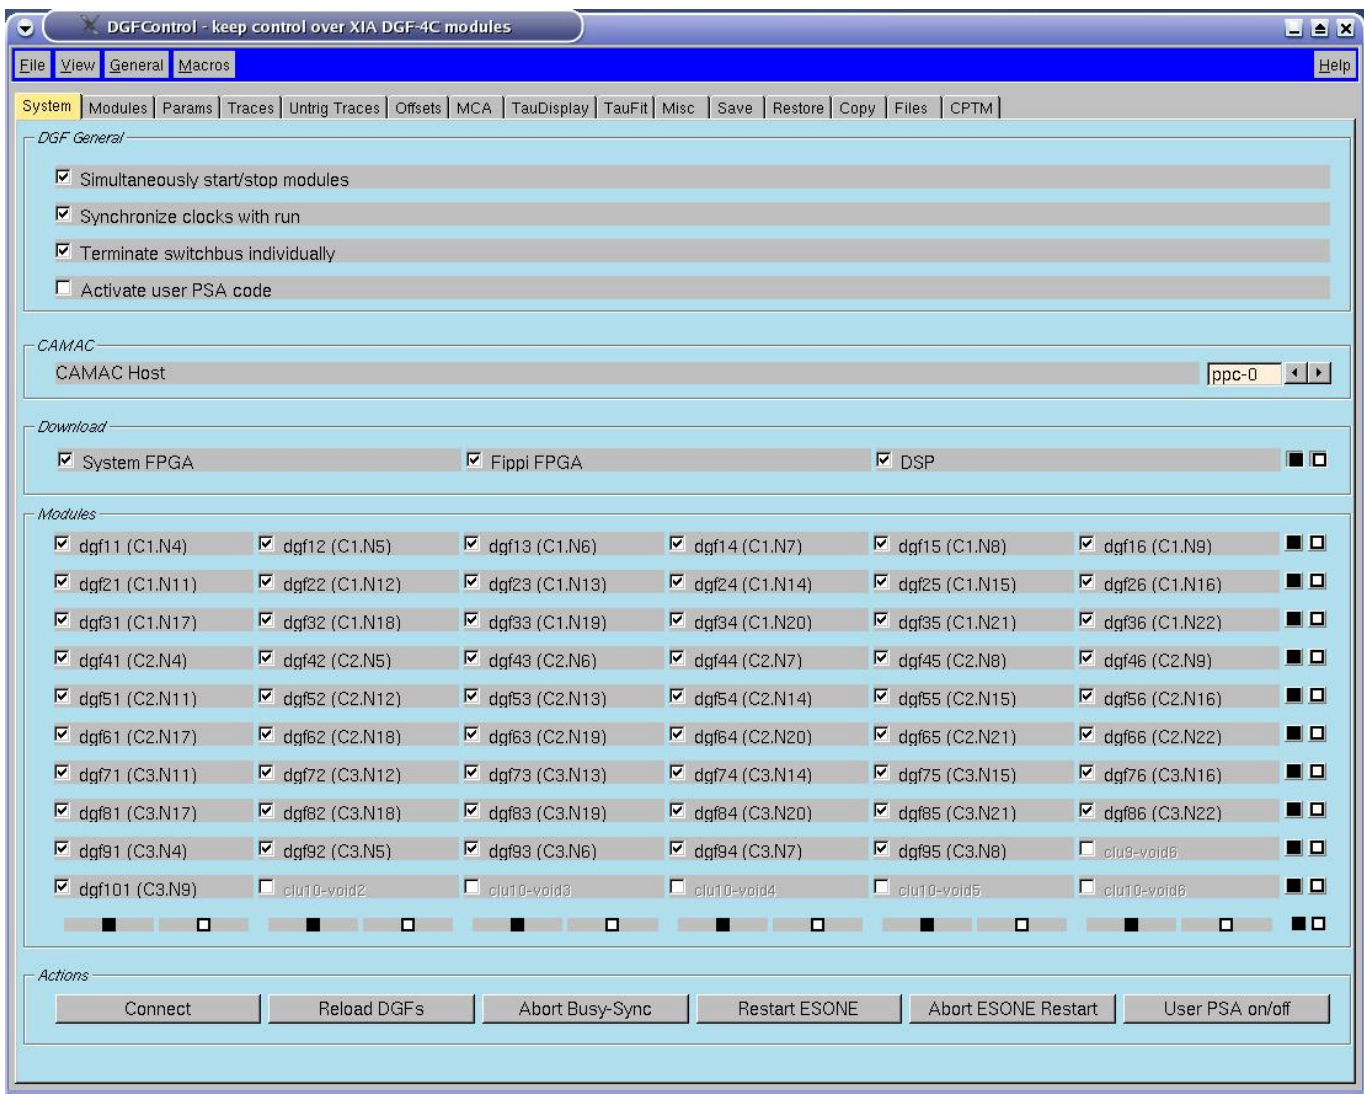

Figure 12: DgfControl: how to set up and control XIA DGF-4C modules
The main (**system**) tab should then show up at your screen (fig. 12).
- **System** (fig. 12)